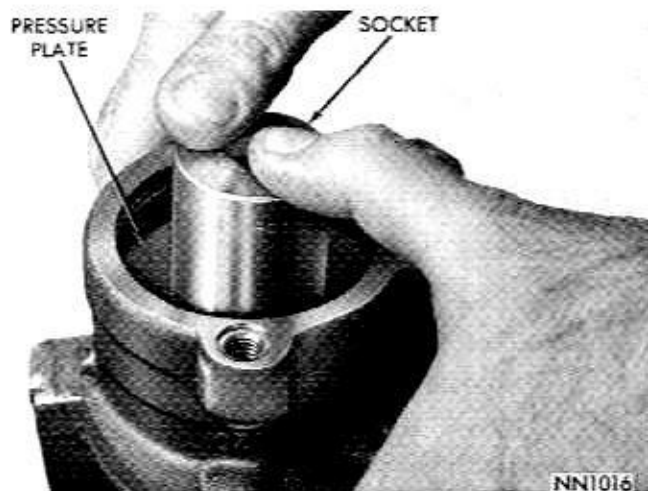

Fig. 17—Seating Pressure Plate
(9) Position pressure plate on dowel pins. Place a 1-1/4 inch socket in groove of pressure plate and seat entire assembly on "O" ring in pump cavity by pressing down on socket with both thumbs (Fig. 17).